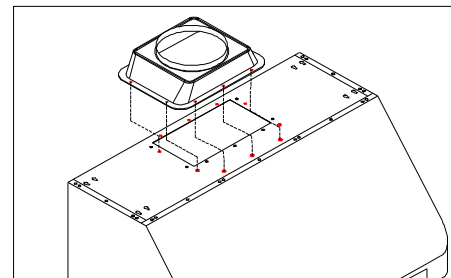

Figure 11
- Attach ducting transition to hood exhaust with ten (3/16" x 3/8") screws (provided). Refer to Figure 11.